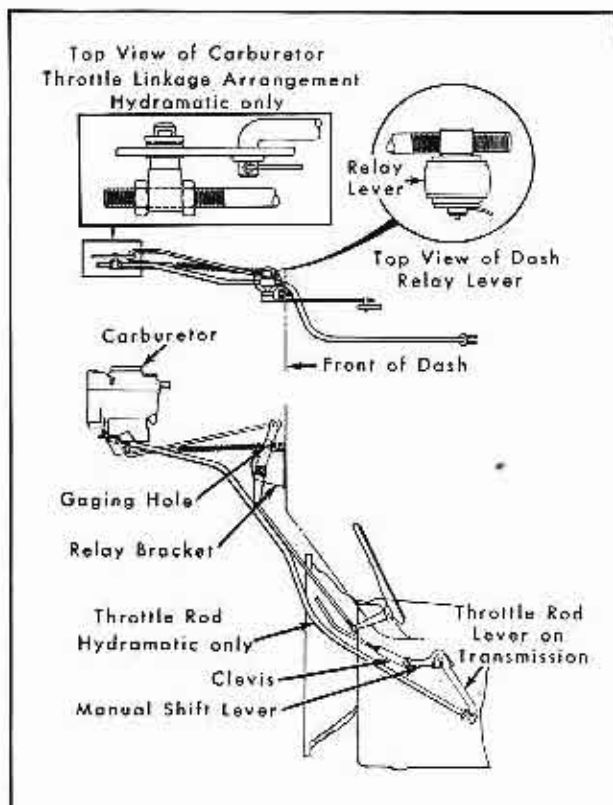

Fig. 14-6 Manual and Throttle Control Linkage
1. Disconnect manual control rod from control lever at transmission. Fig. 14-6.
4. Place 1/4 inch drill shank through gaging hole in dash relay lever and into dash relay bracket. See Fig. 14-6 above.